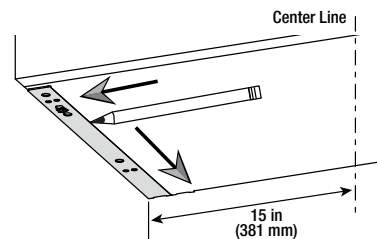

Fig. 17-1
- Align the bracket against the side edge of the 30 in (762 mm) cabinet and the back wall. Draw a line along inner edge of the bracket as shown in fig. 17-1.